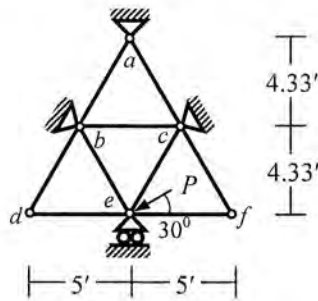

Fig. 1
1. Fig. 1 shows a plane truss $abcdef$ whose support e deflects 10 mm to the left due to the applied force P . Calculate (i) Axial force in all members, (ii) Applied force P [Given: $S_x = \text{constant} = 500 \text{ k/ft}$].